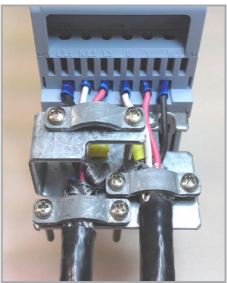

Figure 5: Details of the connection of the power supply and the motor cable shield to the accessory CFW500-KPCSA
- The accessory "CFW500-KPCSx power and control cable shielding kit" (refer to the Chapter 12 ACCESSORIES), can be mounted in the lower part of the cabinet. Figure 5 shows a detailed example of the connection of the power supply and the motor cable shield to the accessory CFW500-KPCSA. Besides, this accessory allows the connection of the control cable shield.